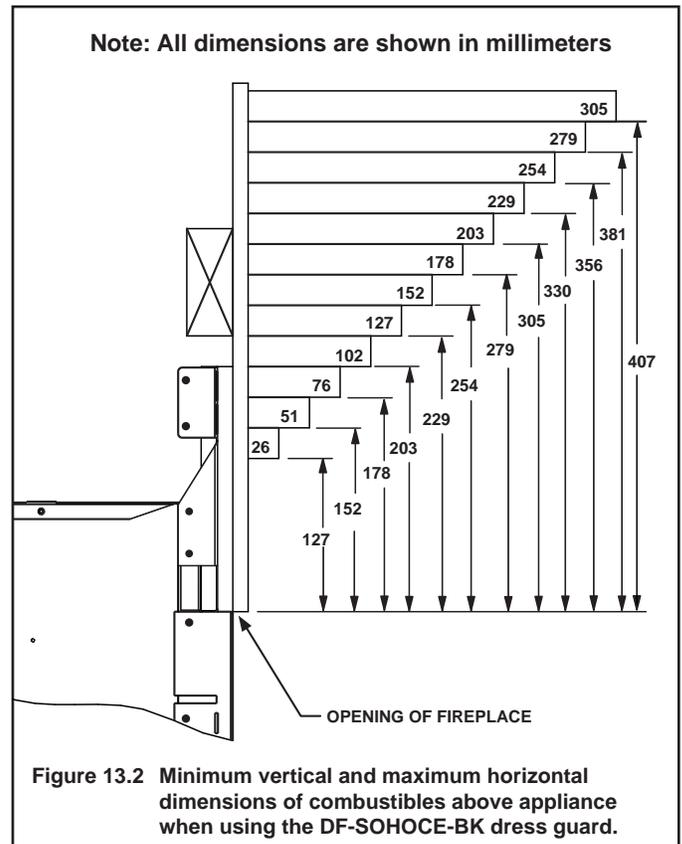

Figure 13.2 Minimum vertical and maximum horizontal dimensions of combustibles above appliance when using the DF-SOHOCE-BK dress guard.
2. Screw each nailing tab to the adjoining framing material. Ensure that the air space clearance is maintained on the sides of the fireplace. See Figure 13.2.